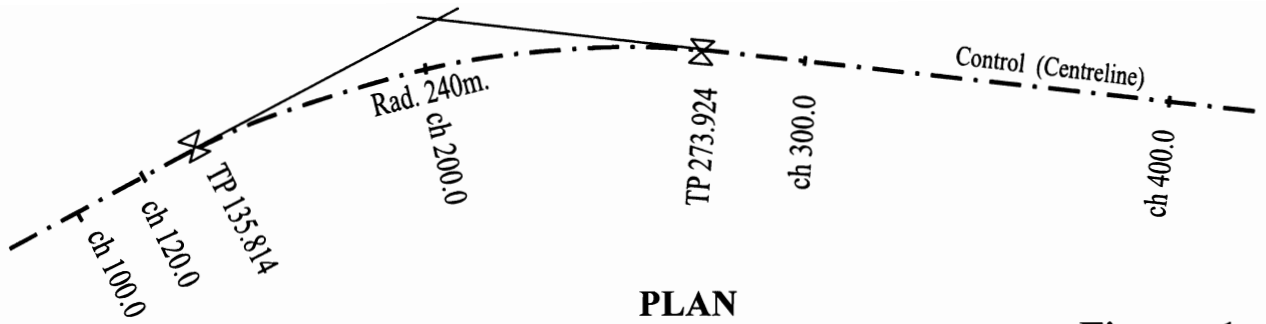

Figure 1
The sketches below (Figures 1 and 2), represent a plan and longitudinal section for a segment of two-lane two-way rural road. The following design parameters apply:
- 2 (c) The length of the crest vertical curve (VC) which fits the last grade and the one you calculated in (a) above which satisfies the **minimum** stopping sight distance. Note – your answer will not necessarily be the same length as that indicated on the Longitudinal Section.
- 6 (h) Calculate the finished surface RLs at the chainages indicated on the Longitudinal Section and show these in the appropriate column, i.e. nine (9) RLs are required.
- 1½ (i) Draw to scale on the Plan (Figure 1), the locations of the transitions at one end of the curve. Label each of these clearly.
***The page showing Figures 1 & 2 must be handed in with your answer books!***
*This page (Figures 1 & 2), must be handed in with your answer books!*